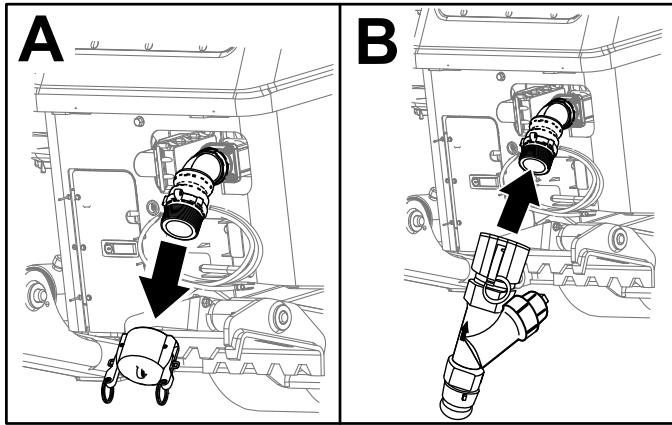

Figure 63
1. Remove the pump-inlet cap (Box A of Figure 63).
2. Align the Y-screen with the threads on the pump (Box B of Figure 63).